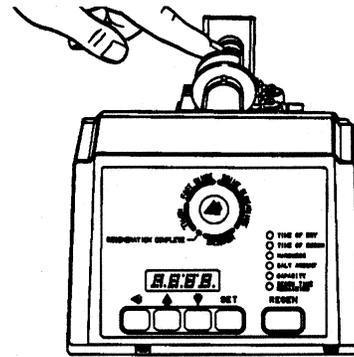
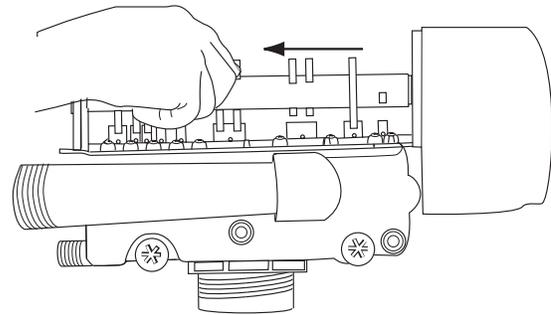

Figure 13
Figure 14
5. To remove the camshaft or to reinstall it, the arrow on the shaft must be pointing at the line on the rear "hoop" of the top plate. This occurs when the indicator knob is rotated to the refill position. Press down on the back of the camshaft to disengage it from the rear "hoop" of the top plate, (Figure 13). Slide the camshaft back to disengage it from the timer, (Figure 14).